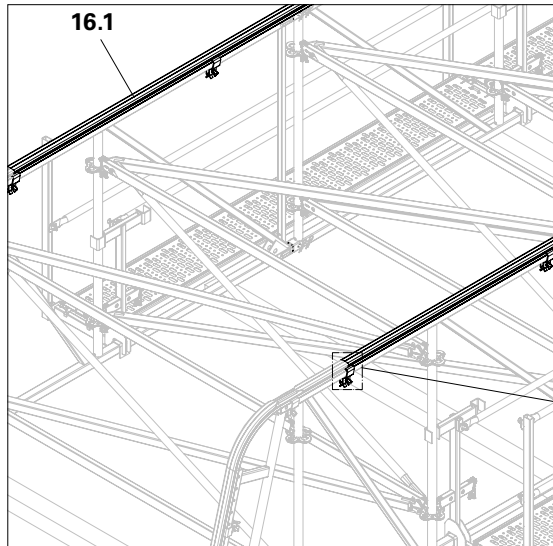

Fig. A3.02
3. Place Keder Rail (16.1/16.2) in the connection on the Eave Rail, and secure on the joint using the Keder Connector. (Fig. A3.02 + A3.03)